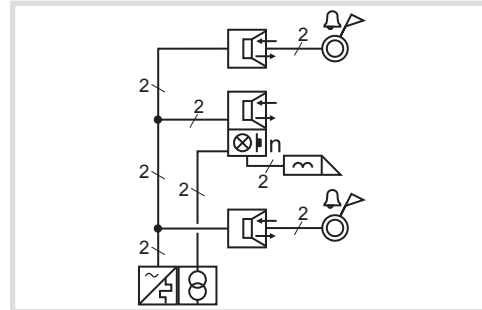

Figure 16: i2 Audio – Connection of a floor door station
- ❗ Floor door stations can only call indoor stations in their own line (figure 16). A ... F is adjustable as floor door address.